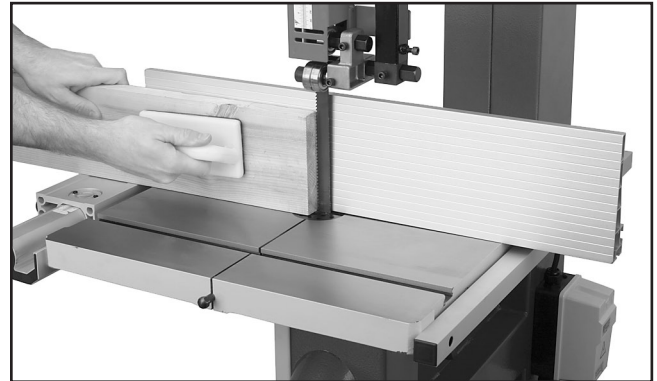

Figure 45. Example of resawing lumber.
Resawing (**Figure 45**) is the process of cutting a board into two or more thinner boards. The maximum board width that can be resawn is limited by the maximum cutting height of the bandsaw.
6. Using push paddles and a push stick, keep pressure against the fence and table, and slowly feed the workpiece into the moving blade until the blade is completely through the workpiece (see **Figure 45**).